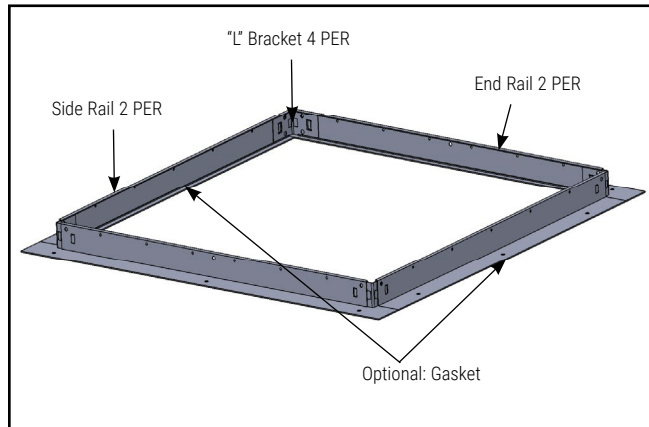

Figure 2.
2. Cleanroom Installations Only: Add 66025 white gasket to the frame inside edge for housing contact outside edge for ceiling contact. (Figure 2)